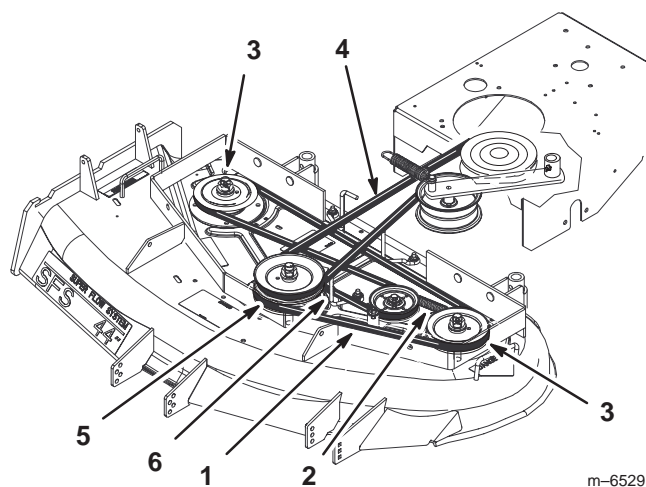

Figure 59
5. Disconnect the idler arm spring to relieve tension on the idler arm and idler pulley, then remove the worn deck belt (Fig. 59).
6. Install the new deck belt around the two outside spindle pulleys, the idler pulley, and in the lower groove of the center spindle pulley (Fig. 59).
7. Connect the idler arm spring (Fig. 59).
9. Adjust deck belt guide an 1/8 inch (3 mm) from belt (Fig. 59).